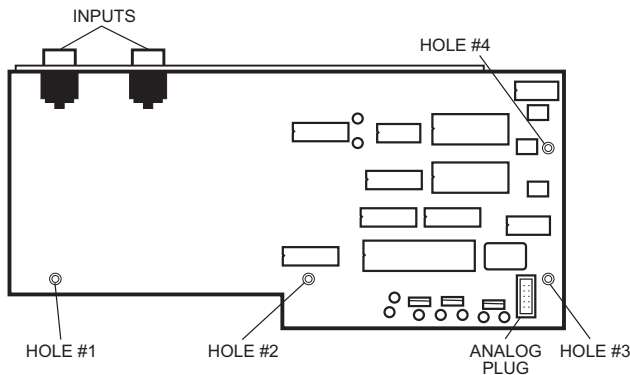

Figure 3. Option Card Mounting Holes and Analog Plug
8. Plug the other end of the ribbon cable into the option card plug (J3), on the lower right corner of the card (Figure 3).